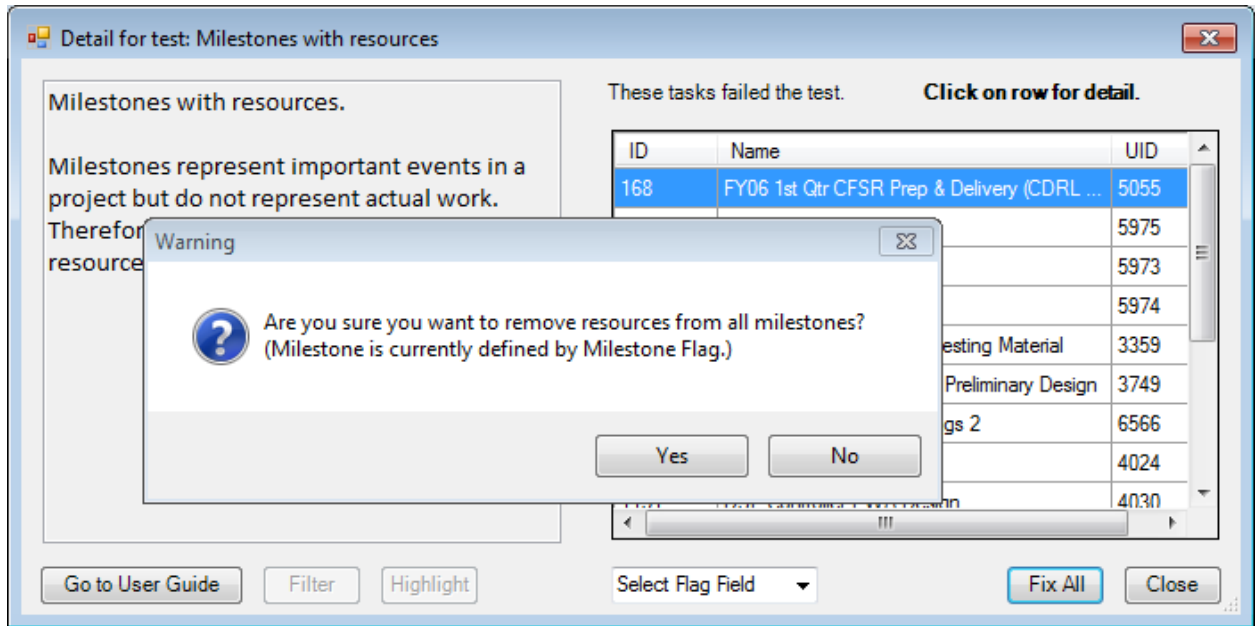

Figure 3.2
*Note: The **Fix All** button will never make any changes before describing specifically what it plans to change, and giving you the chance to abort the process. An example is shown in figure 3.2.*